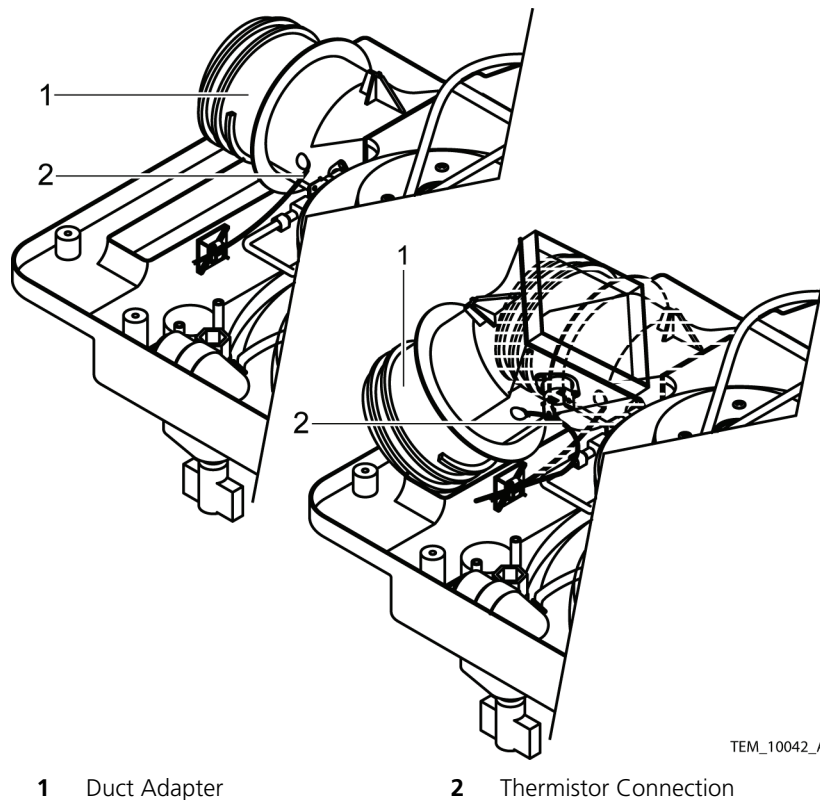

Figure 50. Duct Adapter Placement
22. Carefully reinsert the duct adapter into the blower assembly. See Figure 50.